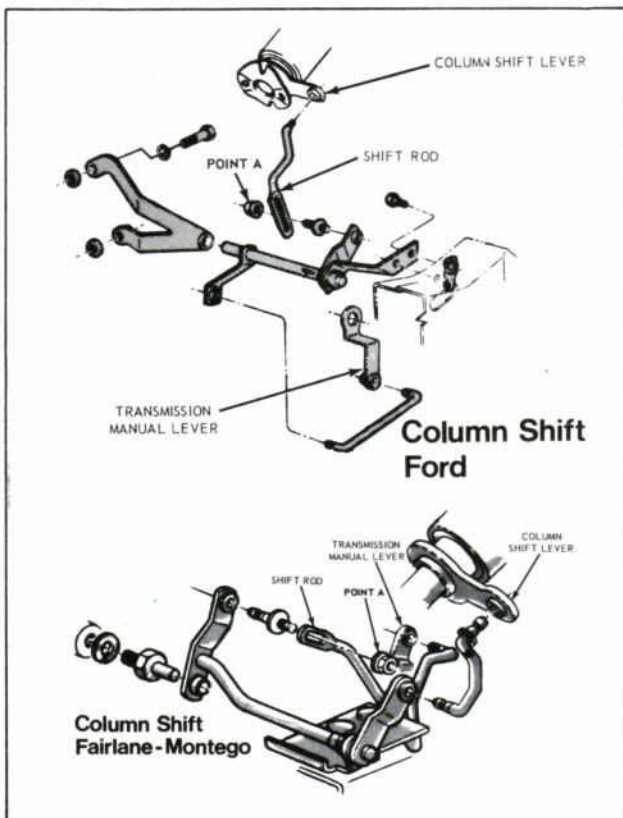

Figure 1—Column Shift Manual Linkage
New shift linkage is used on 1969 Ford, Fairlane, and Montego models (Fig. 1). However, it is adjusted the same as 1968 linkage.
2. Loosen the nut at point "A" enough to permit column shift lever to slide on the shift rod (Fig. 1).